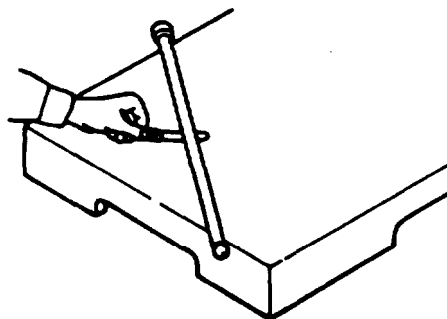

FIGURE 3-73. Push Rod Curvature
- (1) Lay pushrod on a surface plate, refer to FIGURE 3-73.